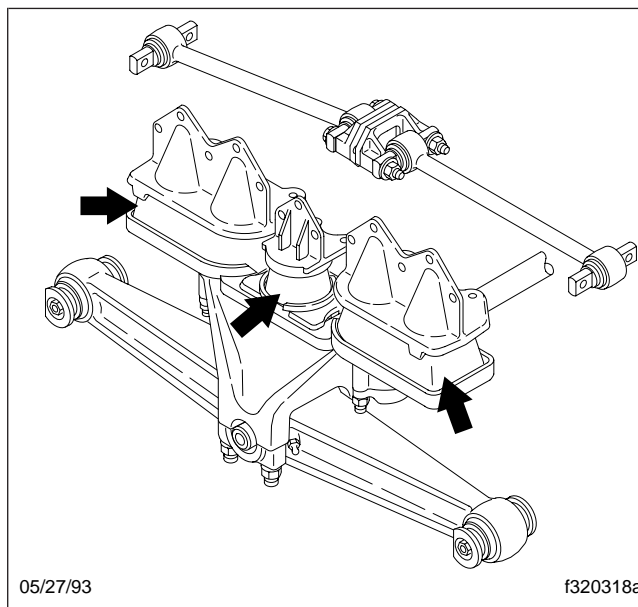

Fig. 17, Hendrickson RS Series Load Cushion Inspection
5. Inspect the load cushions for cuts and swelling. See **Fig. 17**. Cushions cut by the retaining lips of the saddles or frame hangers indicate the cushions may not be the correct hardness or configuration for the vehicle operation.